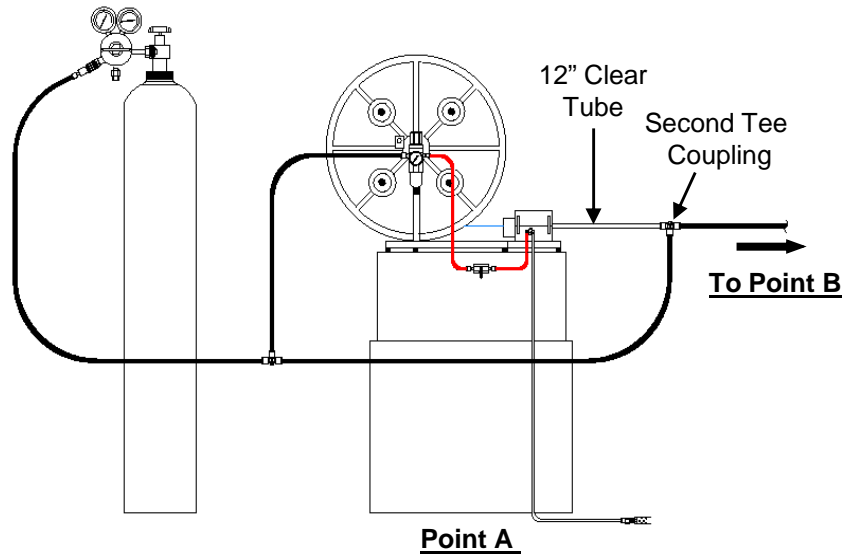
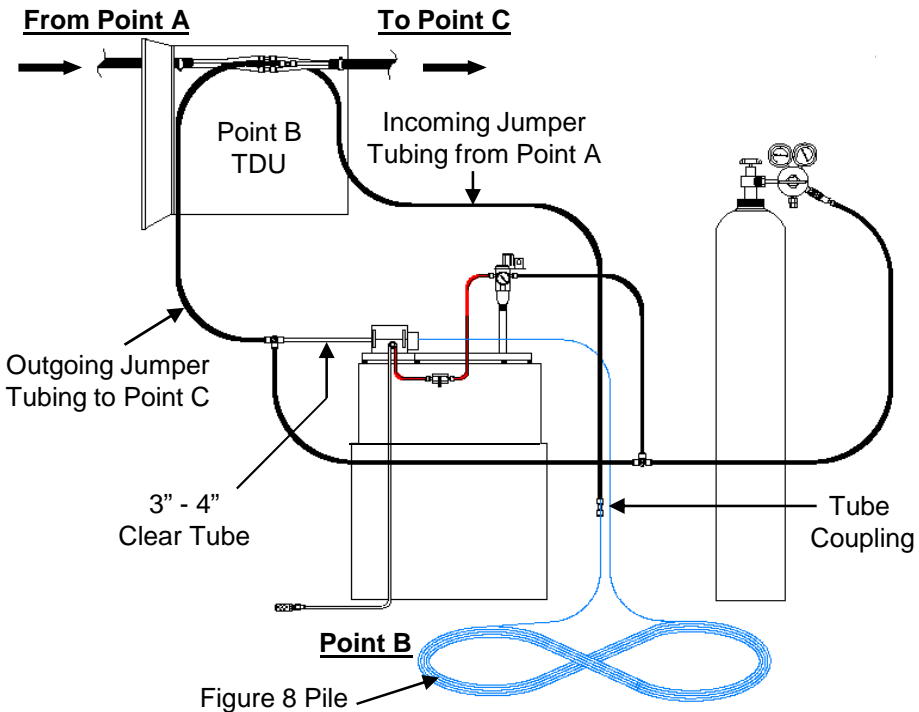
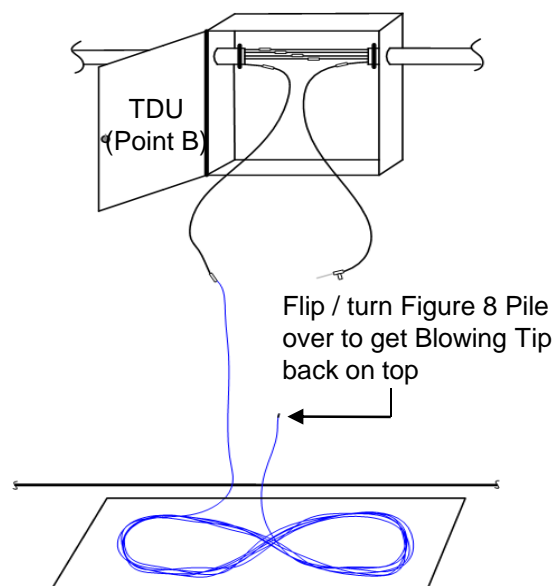

Figure 2
Figure 3
Figure 8
4.1.1 Special Note: The total number of Bottles required to accomplish Segment Blowing with a Figure 8 operations must be considered. Typically, two (2) bottles minimum (maybe more) will be needed at Point A and one (1) bottle (maybe two) at Point B location; total three (3) bottles minimum. Very long or tortuous tube span routes may require more.
4.10 Clean tarp, plastic sheet, or similar ground cover; to protect fiber bundle from contamination while in Figure 8 pile (Installer provided).
4.11 Traffic cones or similar; to organize fiber bundle in Figure 8 pile (Installer provided).
5.1 **See Fig. 2 and Fig. 3** for a typical Segment Blowing with a Figure 8 Blowing Equipment layout.
6.4 At Point A, set up Blowing Head and fiber reel in accordance with Sumitomo Recommended Procedure SRP SP-F04-001. **Refer to Fig. 2.**
Blowing Head Ready to Install Fiber Bundle From Point B Figure 8 to Point C FTU
Prepare Point B TDU and Adjacent Area to Receive Fiber Bundle in Figure 8 Pile
6.6 Prepare Point B work area to receive fiber bundle and make Figure 8 pile.
6.6.2 Set up traffic cones to keep fiber bundle organized in Figure 8 pile.
8.0 Making Figure 8 Pile
Making Fiber Bundle into a Figure 8 Pile
8.2 Installer and Assistant guide moving fiber bundle to protected area and begin making Figure 8 pile.
CAUTION: Blowing Head Operator must be prepared to adjust fiber bundle installation speed as directed by personnel making Figure 8 pile.
8.3 When sufficient fiber bundle length is available in Figure 8 pile to cover the remaining distance from Point B to Point C, Installer informs Blowing Head Operator.
Note: Do not cut fiber bundle from reel at this time. In the event the length of fiber bundle in the Figure 8 pile is "short," recovery is still possible.
9.1 At Point B, set up Blowing Head in accordance with Sumitomo Recommended Procedure SRP SP-F04-001 with the following exceptions. **See Fig. 8.**
Note: For this procedure, the Figure 8 pile must be turned over (flipped) to expose front end of fiber bundle and Fiber Bundle Blowing Tip.
CAUTION: Exercise extreme care when turning (flipping) Figure 8 pile to avoid damaging fiber bundle or getting loops tangled.
9.2 **Critical Step.** Carefully turn (flip) Figure 8 pile over to gain access to Fiber Bundle Blowing Tip. **See Fig. 8.**
Flip / turn Figure 8 Pile Carefully
10.7 Assistant guides exposed fiber bundle from Figure 8 pile into back of Blowing Head during blowing operations.
CAUTION: Be very careful when taking fiber bundle off Figure 8 pile. The thin bundles can tangle very quickly. Be alert and prepared to stop blowing operations if problems occur.
Second Blowing Operation From Point B Figure 8 to Point C
11.2 Blowing Head Operator must continue to install fiber bundle until Figure 8 pile is depleted. Installer at Point C FTU must coil, organize, and protect fiber bundle from damage until the Figure 8 pile is depleted.
11.4 When Figure 8 pile is depleted, Blowing Head Operator adjusts Motor Rate Control Valve to slow fiber bundle movement while decreasing exposed length. Assistant continues to help guide fiber bundle and jumper tubing toward back of Blowing Head.
14.8 This completes the Segment Blowing with a Figure 8 Blowing Procedure.